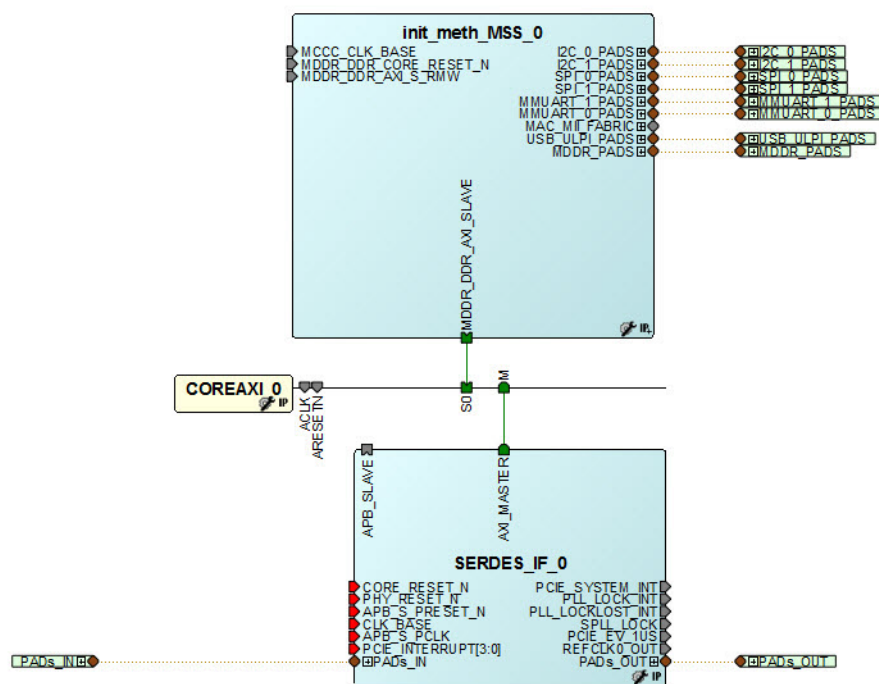

Figure 3-3 • DDR_FIC AXI Sub-System
- Connect the CoreAXI mirrored-master Bus Interface (BIF) port M0 (M1) to the master BIF port of your master core instance(s) (Figure 3-3).